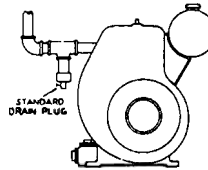

Figure 1 Condensation Trap
5. **EXHAUST.** Exhaust gases from gasoline engines are extremely poisonous. Whenever an engine is installed indoors the exhaust fumes must be vented to the outside. The engine should be installed at least two feet from any outside wall and the exhaust recommendations given in Figure 1 should be followed. Using an exhaust pipe which is too long or too small can cause excessive back pressure which will cause the engine to heat excessively and possibly burn the valves.
drain plug to permit the accumulated moisture to be drained out. (See Figure 1) Drain this trap at regular intervals to prevent the trap from becoming full and overflowing into the engine. Support the exhaust pipe two feet from the exhaust opening in the cylinder, as any length of pipe over this amount, if not supported, may break the cylinder casting.